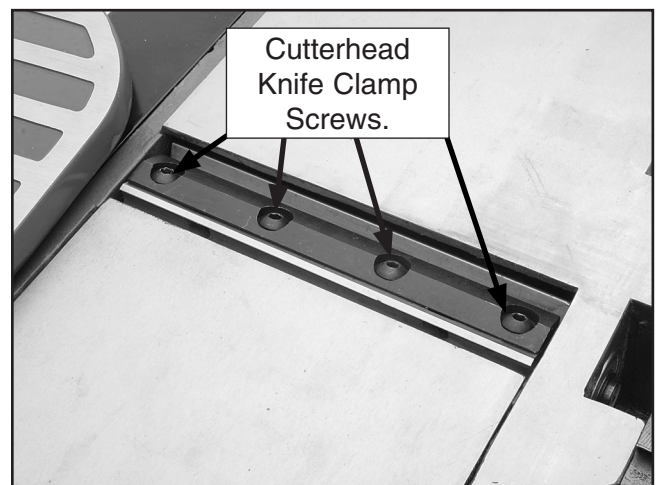

Figure 17. Cutterhead knife clamp screws.
3. Locate the knife clamp screws and knife adjustment jack screws (see **Figures 17 & 18**).